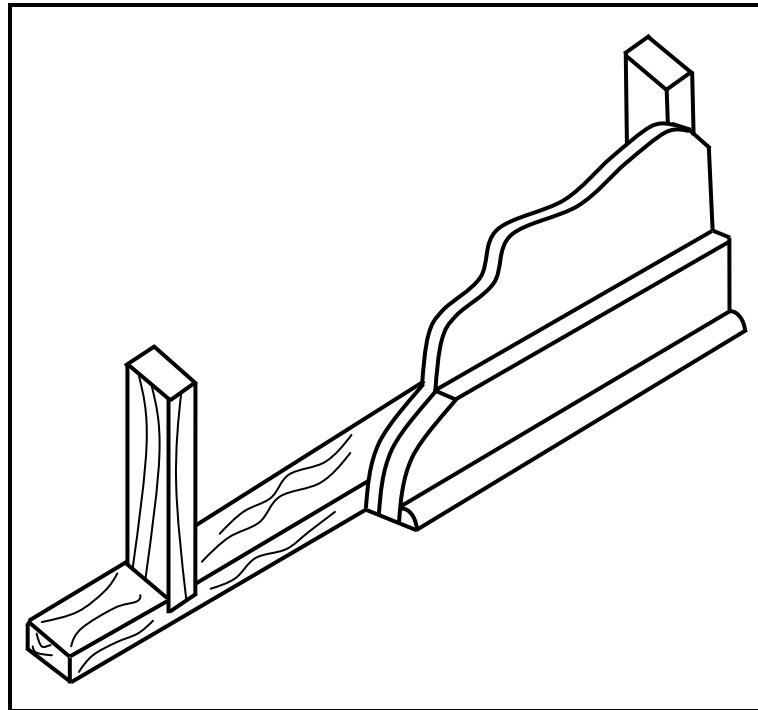

FIGURE 2.5
2.5 FIGURE 2.5 shows an isometric view of a construction at the bottom of a dry wall construction. Do NOT redraw the sketch, but use it as a hint to answer QUESTION 2.5.1.